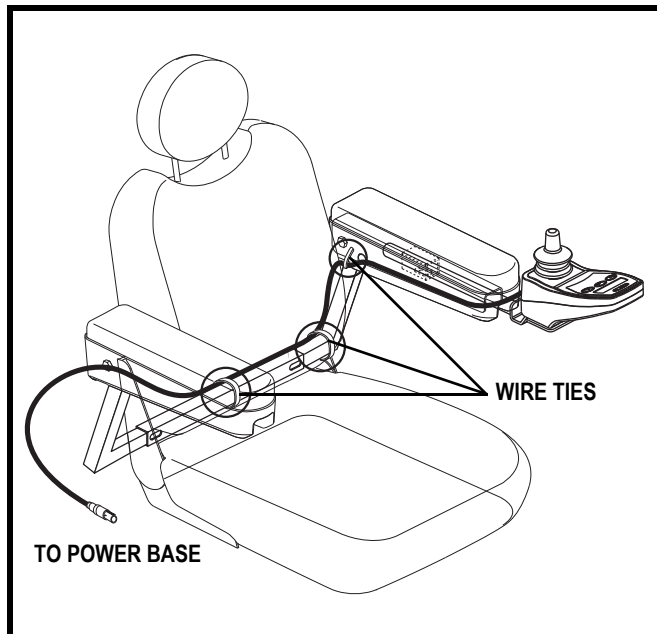

Figure 9. Controller Harness Routing on a Contour Seat
6. Secure the controller harness to the armrest receiver with wire ties. See figure 9.